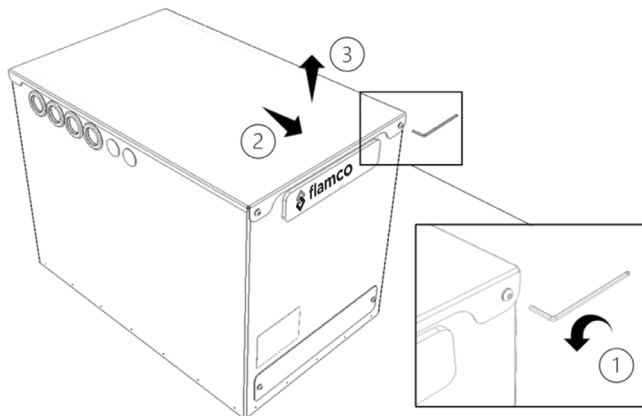

Figure 6 - Lid Removal of Flextherm Eco G2 D Heat Battery
- Remove lid. The lid is secured by 2 x M5 button head cap screws at the front and two locating pins at the back (Figure 6):
- o (1) Remove 2 x M5 button head cap screws using 3mm hex head and set aside.
- o (2) Slide the lid forward, (3) then lift the lid up and set aside.